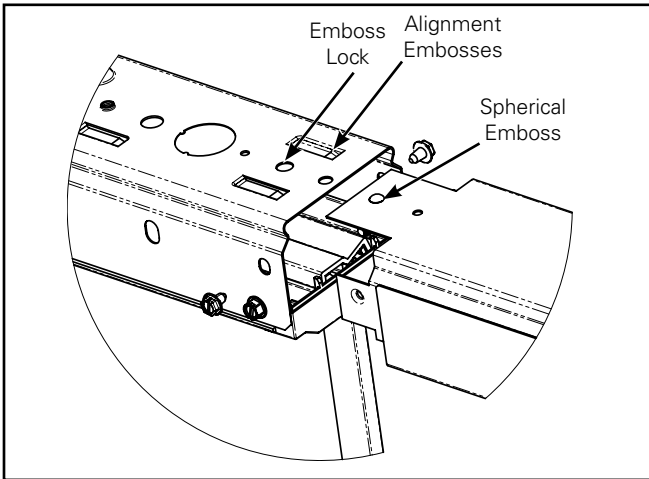
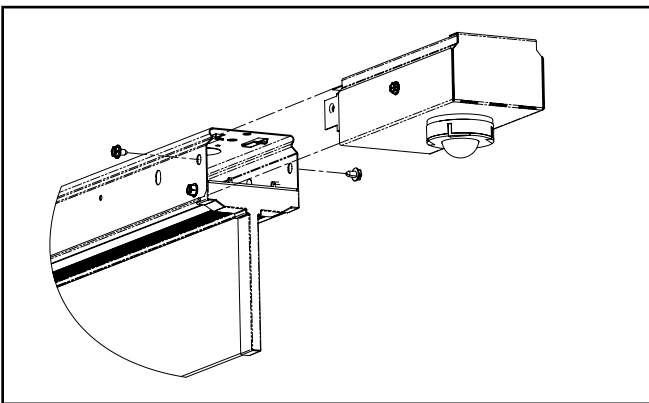

Figure 2.
Figure 3.
3. Insert the upper tab of the sensor housing into the alignment embosses in the channel. Side tabs go inside the channel sides (Figure 2). Be sure the spherical emboss engages the hole on top of the channel and all the holes align (Figure 3).
4. Using the two screws previously removed from the end plate, secure the sensor housing through the same holes (Figures 3 & 4).
3. Insert the upper tabs of the sensor housing into the alignment embosses in each of the channels. The side tabs go inside the channel sides (Figure 2).